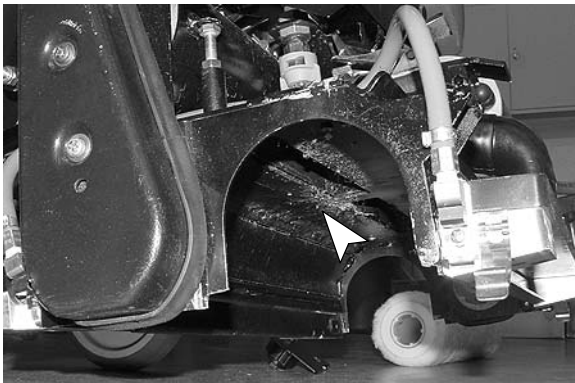

FIG. 28
2. Remove any debris build-up from the underside of the scrub head (Figure 28).